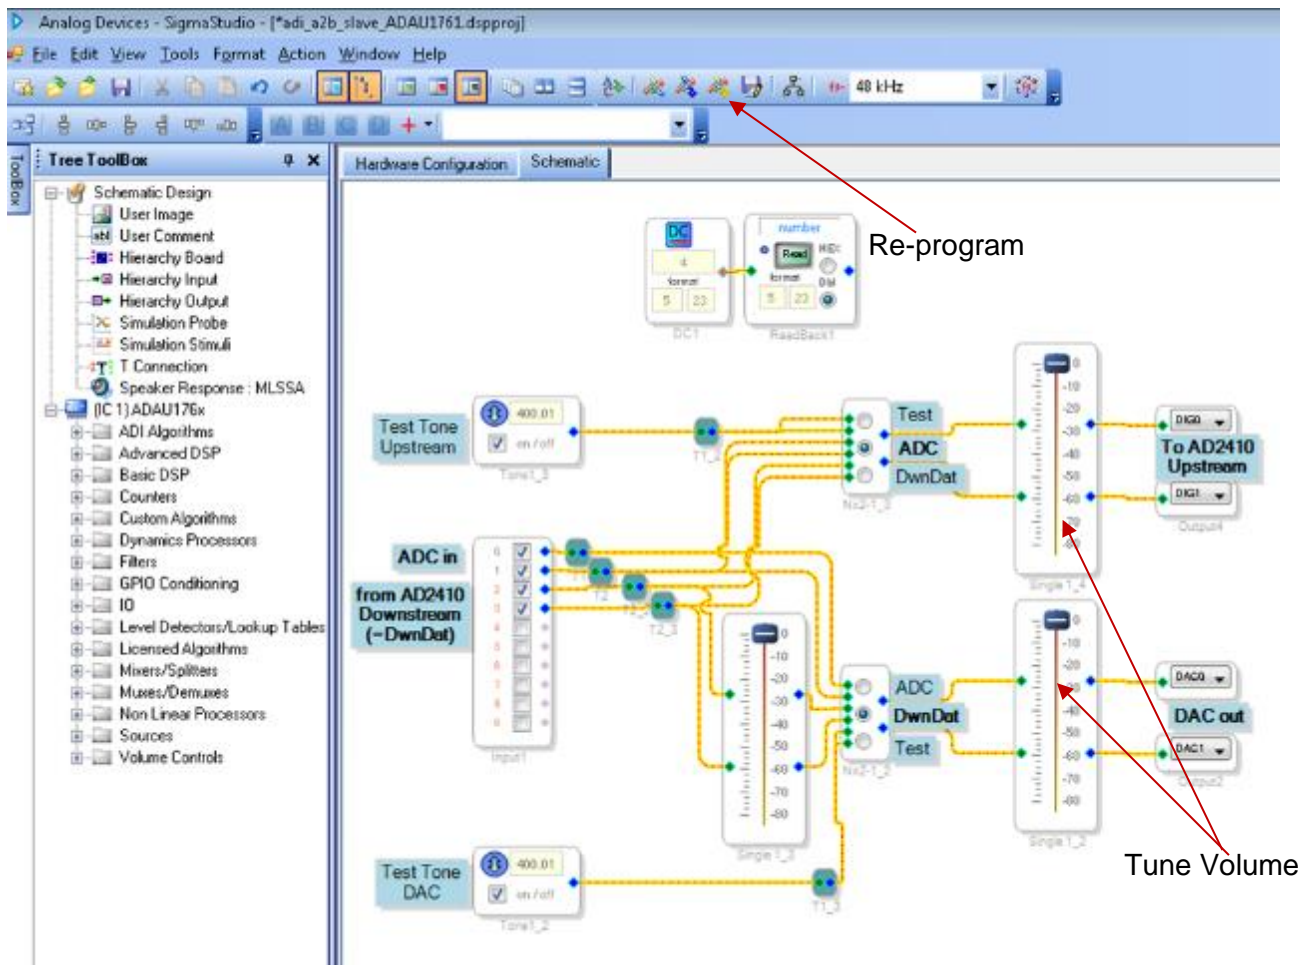

Figure 66: Tuning SigmaDSP over A2B
9. Switch to the Schematic tab and start tuning/reprogramming the peripheral as shown in Figure 66. **Note:** Ensure that A2B schematic is downloaded and nodes are discovered before tuning.